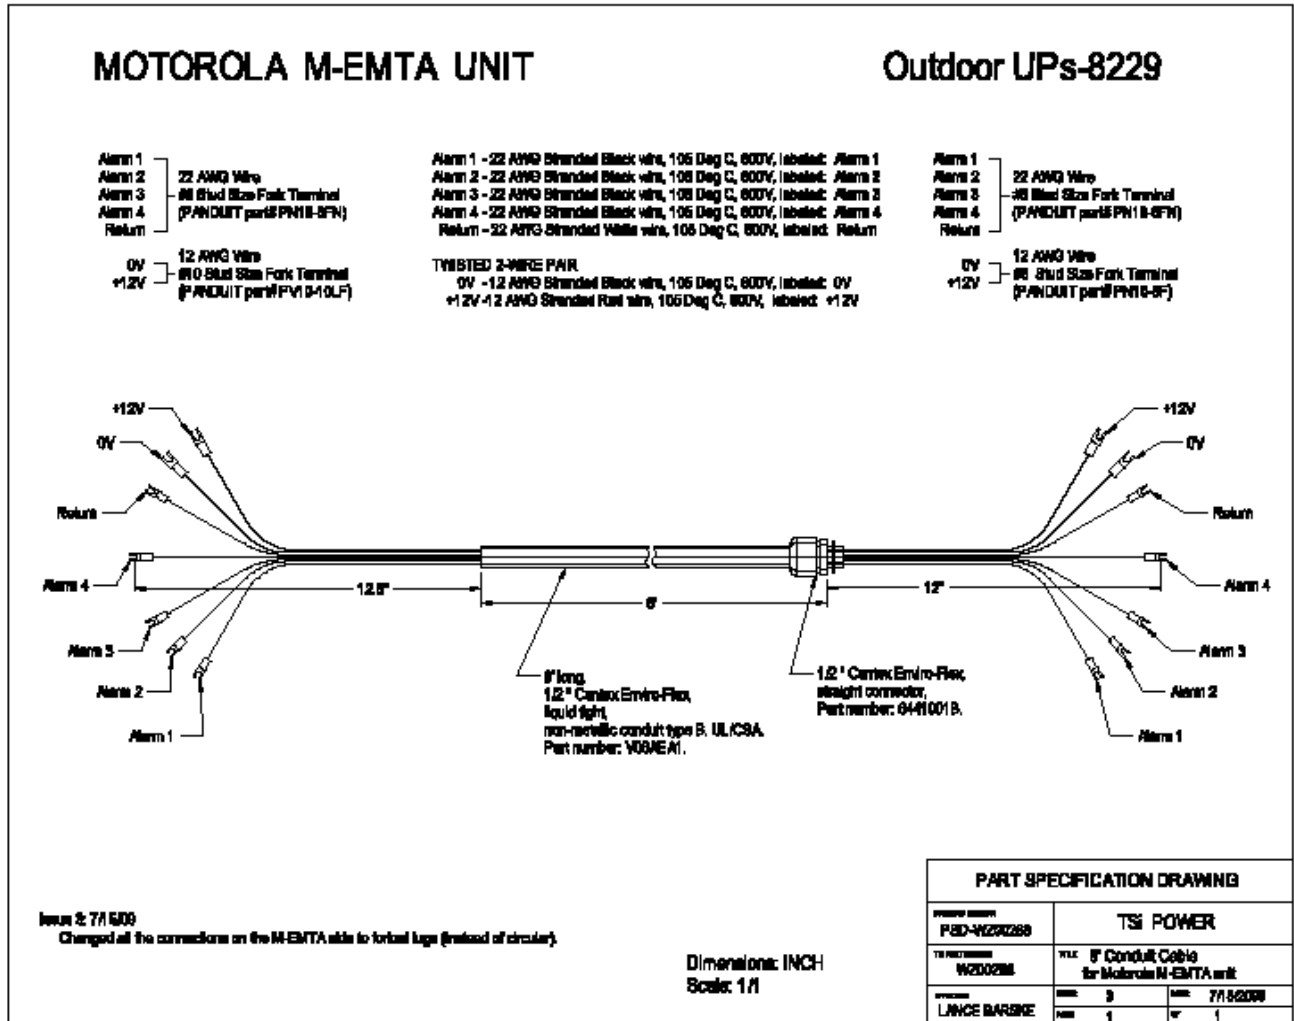

Figure 5: PSD-WZ00288 Motorola Cable Assembly
- 4.15** Use 8’ conduit cable assembly for Motorola installations. TSi drawing number: PSD-WZ00288. *See Figure 5.